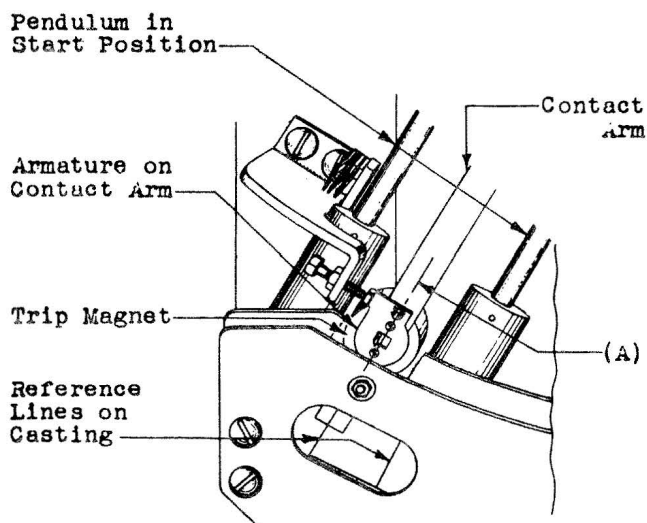

Fig. 15 - Alignment of Trip Magnet Core with Armature on Contact Arm with Pendulum in Start Position
2.12 Relation Between Contact Arm and Pendulum - Fig. 15 (A): With the pendulum in the start position and with the trip magnet energized the core of the trip magnet shall be centrally aligned with respect to the armature on the contact arm. Gauge by eye.